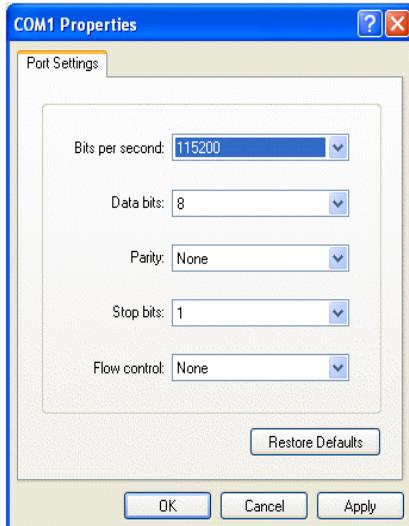

Figure 4 COM1 Properties Window
3. Click the Configure button. The Properties window of the connecting COM in Figure 4 on page 8 is displayed.